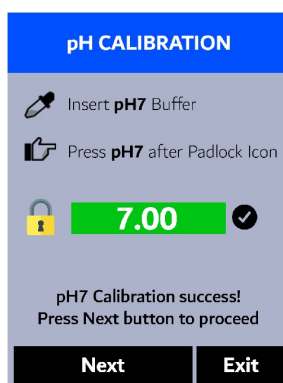

Figure 26.
9. If the calibration succeeds, a checkmark (**✔**) and a "pH7 Calibration success!" message will appear (Figure 26). Otherwise, a warning message is displayed.